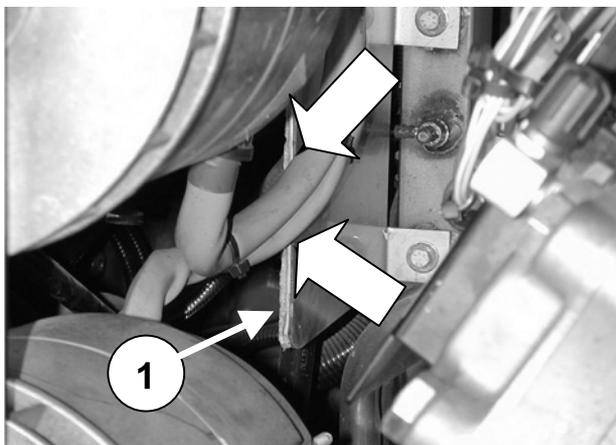

Figure 1: Damage hazard at the lavatory slide valve heat shield (1)
- 2) Check the alternator B+ harness protection sleeve and cable for actual or potential damage as shown in 1, Figure 1.